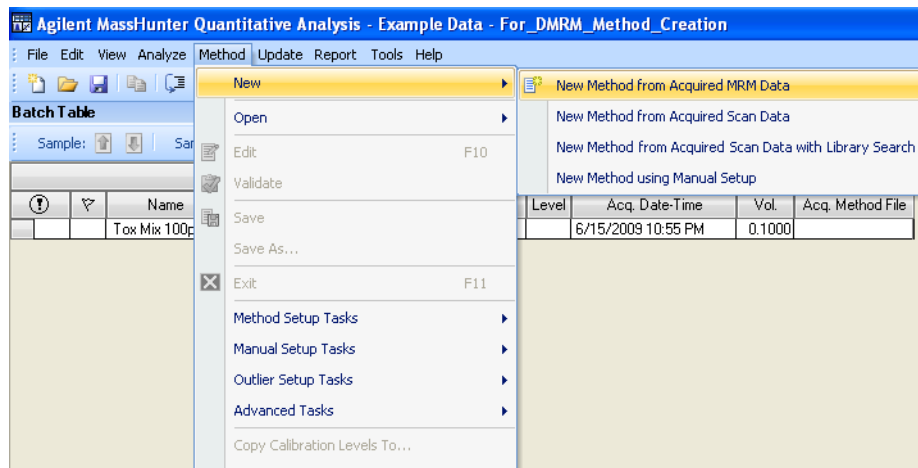

Figure 25 New Method from Acquired MRM Data selected
- Click **Method > New > New Method from Acquired MRM Data**. See Figure 25.